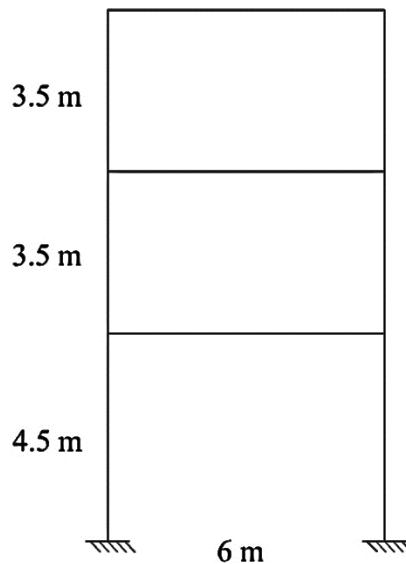

Fig. 1.2
2. Analyse the frame shown in Fig. 1.2 using cantilever method. All columns have the same cross-sectional area